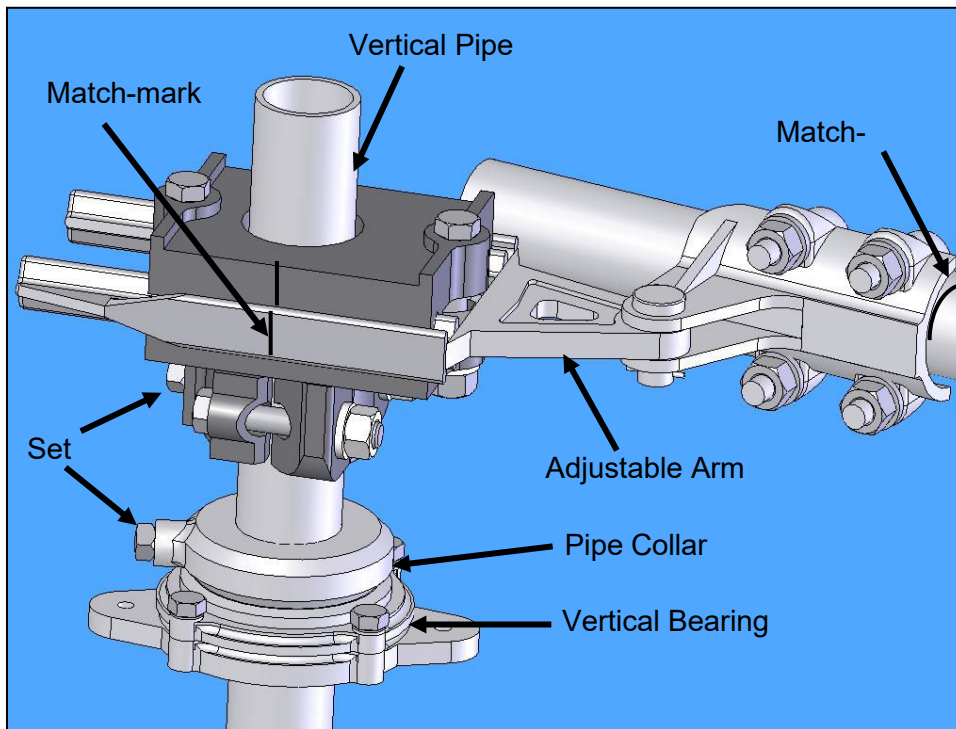
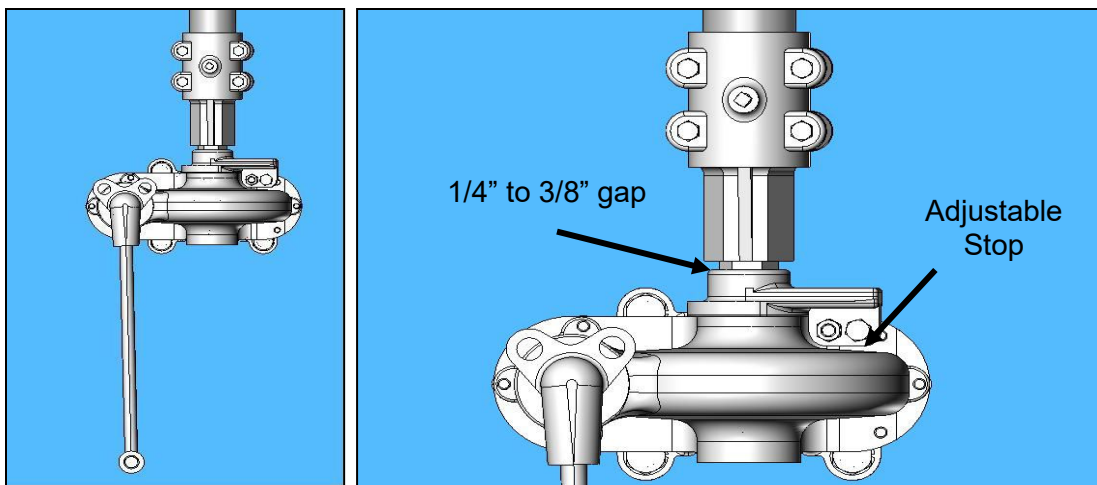

Figure 5: Typical Operating Arrangement
Figure 6: Type HOGO (High Output Geared Operator) Front View
Refer to the Operating Mechanism drawing and install all mounting brackets, bearings, bushings, pipe clevises, switch operating device, adjustable arm, reach rod, and other necessary components. Refer to **Figure 5**.
3. **Caution:** The pipe collar (above the vertical bearing) must support the entire weight of the vertical operating pipe. To prevent unnecessary component damage, **Do not allow the pipe to rest on the switch operating device**. Refer to **Figure 6**.
- 2.1.2. The weight of the vertical operating pipe should be supported by pipe collar (**Figure 5**) by maintaining the 1/4 - 3/8" gap (**Figure 6**).
- 2.1.3. When the switch is properly adjusted the operator handle should hang freely in both the open and closed positions to permit the use of a customer supplied padlock. Refer to **Figure 6**.